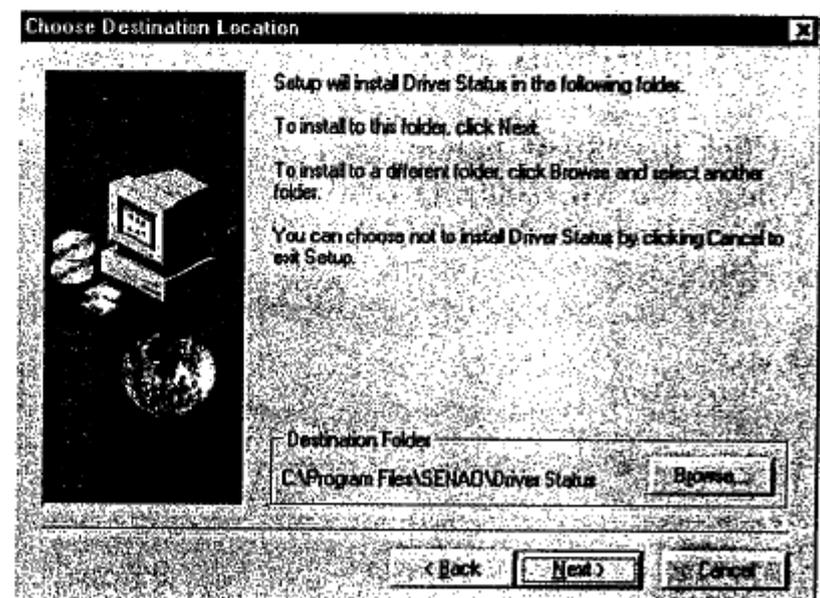

Figure 4-9
4. In the "Choose Destination Location" dialog box, you can click "Browse" and select to install "Driver Status" program to a different folder or click "Next" to a default folder as shown in Figure 4-9.